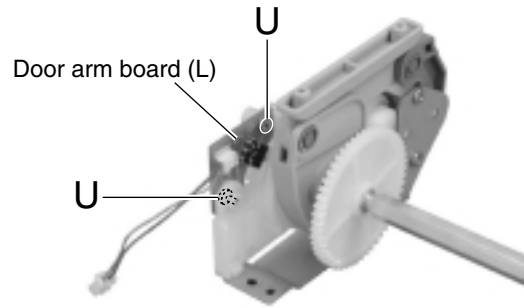

Fig.24
**■Removing the door arm boards (L) and (R)**
**(See Figs.24 and 25)**